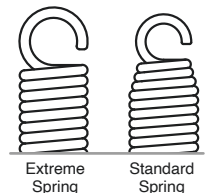

Fig.8
- To identify each Spring, check the shape of the Spring Coil End. The Standard Spring is tapered, and the Extreme Spring is not (Fig.8).